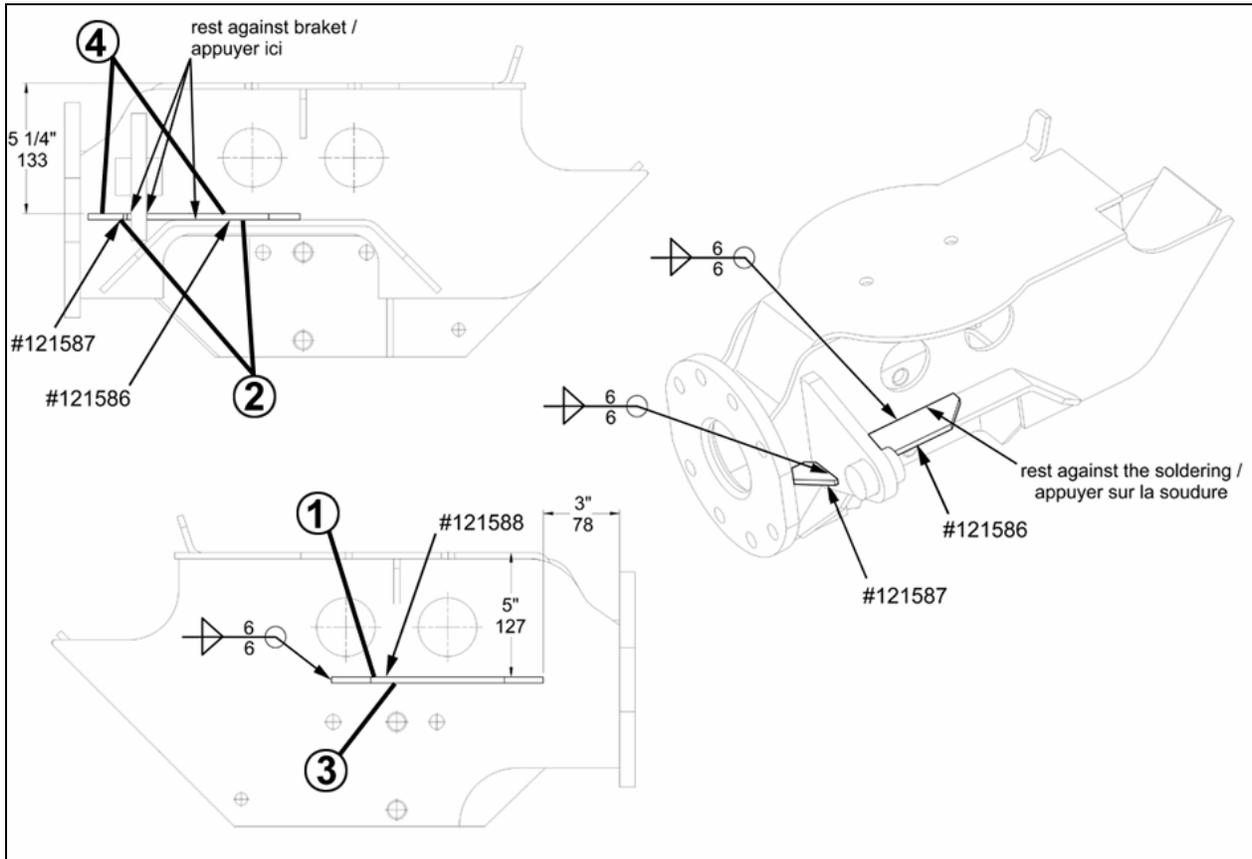

FIGURE 3
3. Check if tag axle is cracked, check if cracks are superficial by grinding the affected area to make the cracks disappear. If cracks are only superficial, chip off or grind to bare metal then reweld crack referring to paragraph: **Steel – Steel Welding**. Weld reinforcement parts referring to figure 3 welding specifications
4. If no cracks are present on tag axle, weld reinforcement parts referring to figure 3 welding specifications.
5. Weld reinforcement parts as per figure 3 and refer to following welding specifications:
- ? Install and spot weld reinforcement parts # 121586, 121587 and 121588 as per figure 3;
- ? (1) Weld top of reinforcement part #121588 (horizontal);
- ? (2) Weld under reinforcement parts # 121586 and 121587 (overhead);
- ? (3) Weld under reinforcement part #121588 (overhead);
- ? (4) Weld top of reinforcement parts #121586 and 121587 (horizontal);